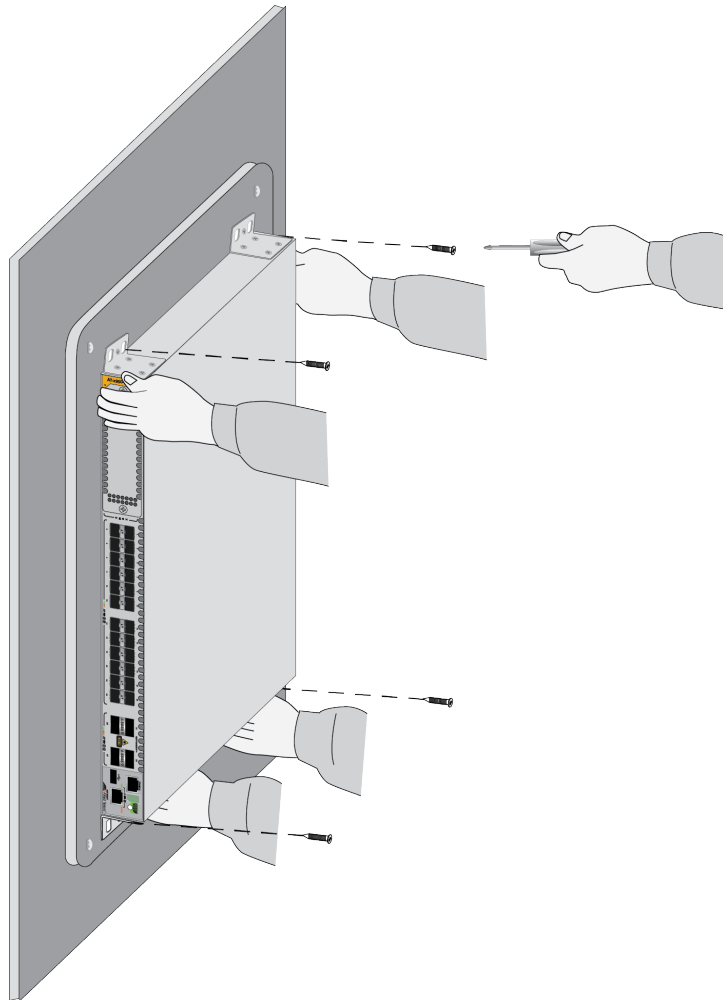

Figure 93. Attaching the Switch to the Plywood Base
3. After attaching the brackets to the side of the switch, have two people hold the switch on the plywood base on the wall while you secure it with the four provided screws. Refer to Figure 93.